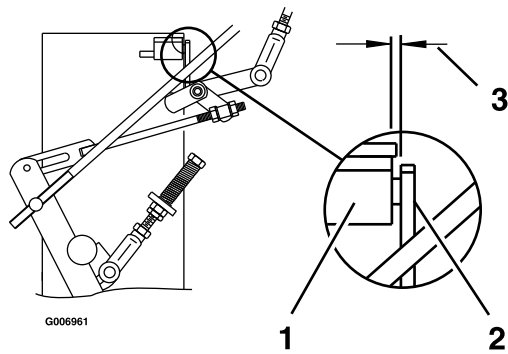

Figure 21
2. Move the speed control lever (located on the console) to the full forward position and check the orientation of the tabs on the ends of the speed control crank (see Figure 21). These tabs should be pointing straight down at the 6 o'clock position or slightly forward. Adjust the threaded yoke at the bottom of the speed control linkage (see Figure 21) until the tabs are positioned correctly.
- Pull the speed control lever back to neutral. Check that the neutral safety switch actuating tab has depressed the plunger of the switch so that there is about 5/16 inch (7.9 mm) between the tab and the switch (see Figure 21). If necessary, move the switch fore and aft.